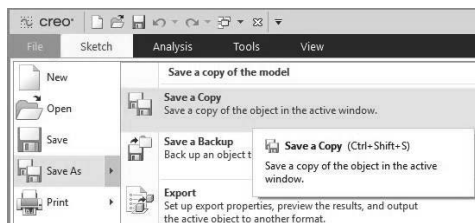

Figure 3-58 Save a Copy
Step 22: With sketch “exercisel1a” visible on the screen, *select* **File>Save As>Save a Copy**. See Figure 3-58.